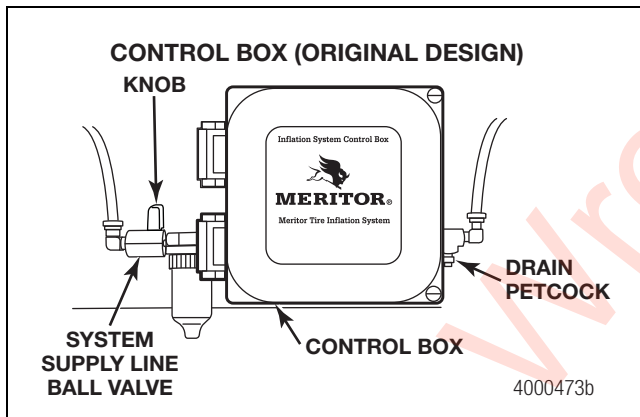
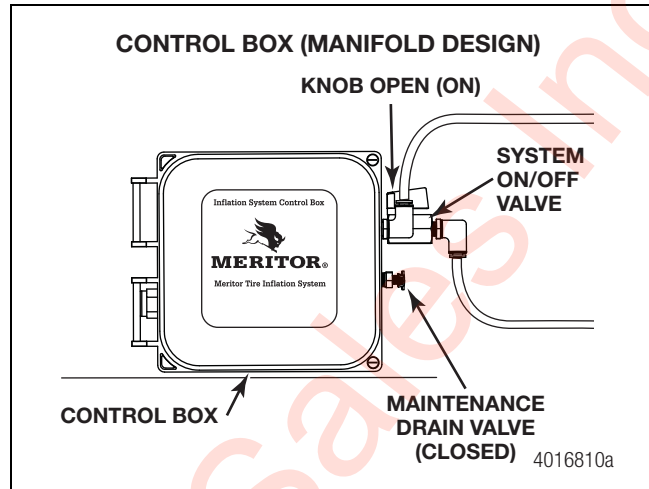
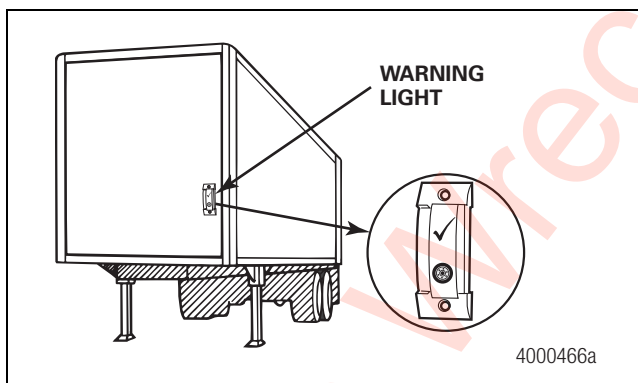

Figure 3.1
Figure 3.2
Figure 3.5
2. Check that the system ball valve is open. When the valve is open, the knob aligns with the valve body. Also, check that the drain petcock is closed. Figure 3.1 and Figure 3.2.
6. Check the warning light by opening the drain petcock at the control box. Figure 3.5. The warning light will come ON when the petcock is open and turn OFF when the petcock is closed. Figure 3.1.